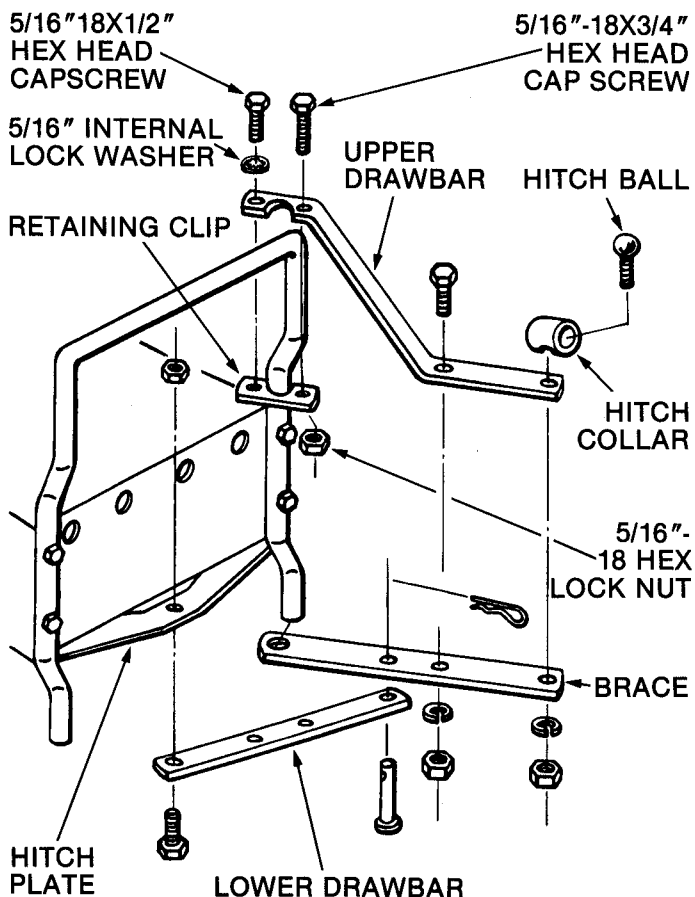

FIG. 2 - DRAWBAR HITCH INSTALLATION
2. **DRAWBAR-HITCH INSTALLATION:** *Refer to FIG. 2 and secure the upper drawbar and (threaded) retaining clip to the RIGHT leg of the bumper. Screw the 5/16"-18x1/2" hex head cap screw (with 5/16" internal lock washer) into the FRONT holes, then screw the 5/16"-18x3/4" hex head cap screw through the REAR holes - securely tighten both cap screws and then thread the 5/16"-hex lock nut on the REAR cap screw and securely tighten it!